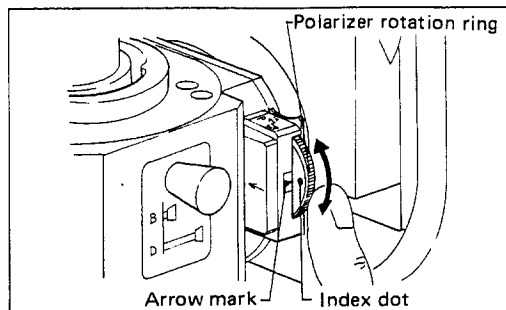

Fig. 63
- ① Pull out the polarizer slide and also the analyzer slide until they click-stop in position, respectively.
- ② Turn on the power switch to light the lamp of the illuminator, and set the brightness indicator to "6".
- ③ Place a specimen on the stage.
- ④ Adjust the interpupillary distance and diopter.
- ⑤ Carry out the centering of the lamp.
- ⑥ Turn the diffuser lever to the position [IN].
- ⑦ Turn the rear filter turret to show up the indication [NCB 10].
- ⑧ Make sure that the illumination change-over knob is pushed into the limit.
- ⑨ Swing in the objective 10× and focus on specimen.
- ⑩ Push in both polarizer slide and analyzer slide until they click-stop.
- ⑪ Turning the polarizer rotation ring, line up the index dot [●] with the arrow mark [▶]. (Fig. 63)